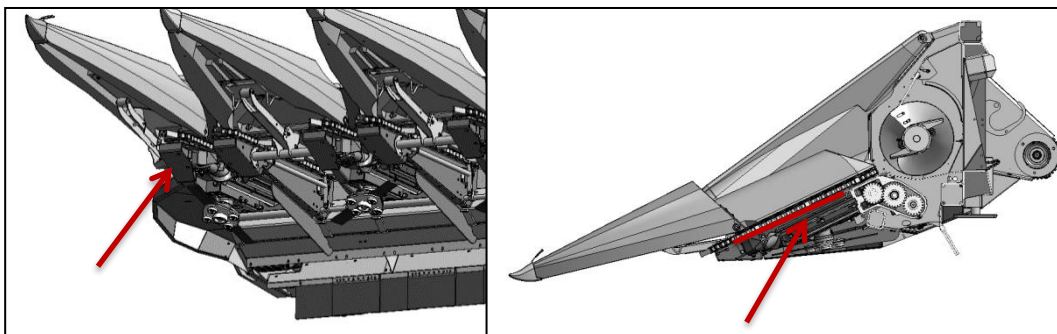

Figure 10: Rest 4" x 4" block on front of row unit (arrow, left) and measure deck plate angle (arrow, right) relative to ground.
- 8.2. To set header angle, lower header until front of row unit rest of a 4" X 4" block (Figure 10).
- 8.3. Measure snapping plate angle relative to the ground (Figure 10).